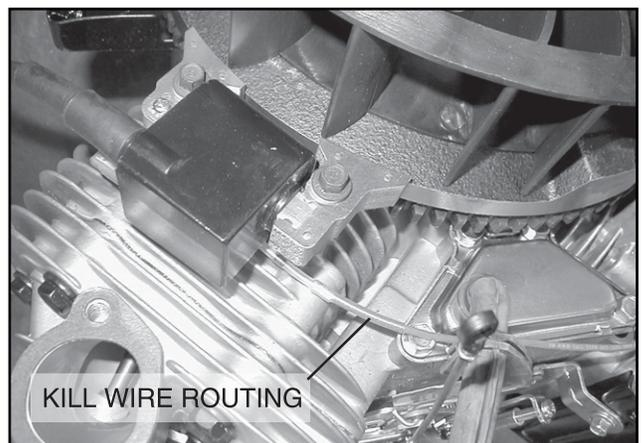

**Figure 2-1. Removing Armature**
4. Remove armature screws and lift off armature(s), Figure 2-1.